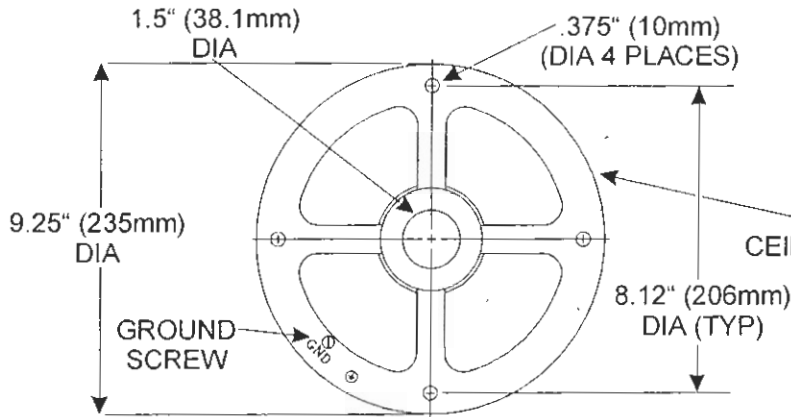

Figure 4
- Fasten the ceiling casting to the desired location using four 1/4" - 20 x 3" bolts (minimum) with washers (not provided). **NOTE: The ceiling rod must be plumb. Shim the casting if necessary.** (See Figure 4 for mounting dimensions.) **NOTE: The ceiling casting itself must be electrically grounded to maintain proper grounding reliability.** This can be done by mounting the casting to a suitable material that will function as a ground conductor, or a wire lead must be attached to the ground screw on the casting, then routed to proper ground.
- Run the power supply line (not provided by Medical Illumination) from a junction box (see Figure 2), down through and two inches past the end of the Ceiling Rod. **IMPORTANT: To achieve proper grounding reliability, the green ground wire MUST be properly fastened to the grounding screw located on the Ceiling Casting (see Figure 4).** Make all electrical connections in compliance with electrical codes.